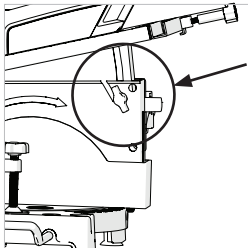

Fig. 5
- Raise the table top to its upmost position and tighten the height adjustment screw. **(Fig. 5)**